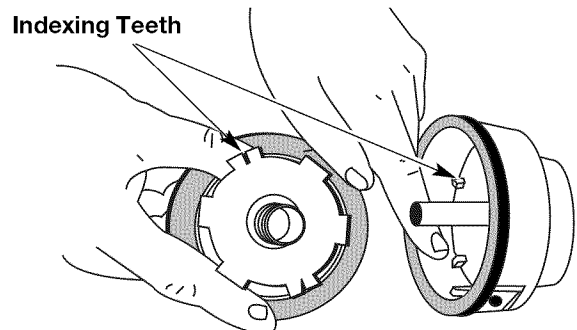

Fig. 17
5. Check the indexing teeth on the inner reel and outer spool for wear (Fig. 17). If necessary, remove burrs or replace the reel and spool.